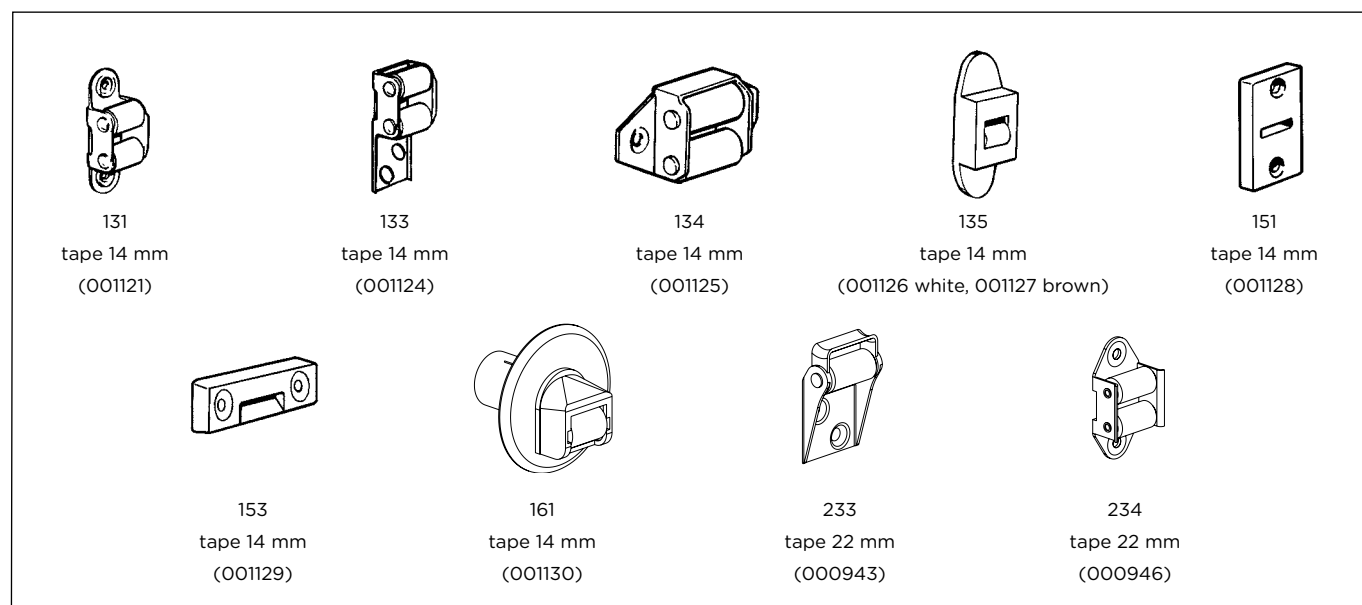

Fig. 10:
- Overview of available tape guides: see Fig. 10